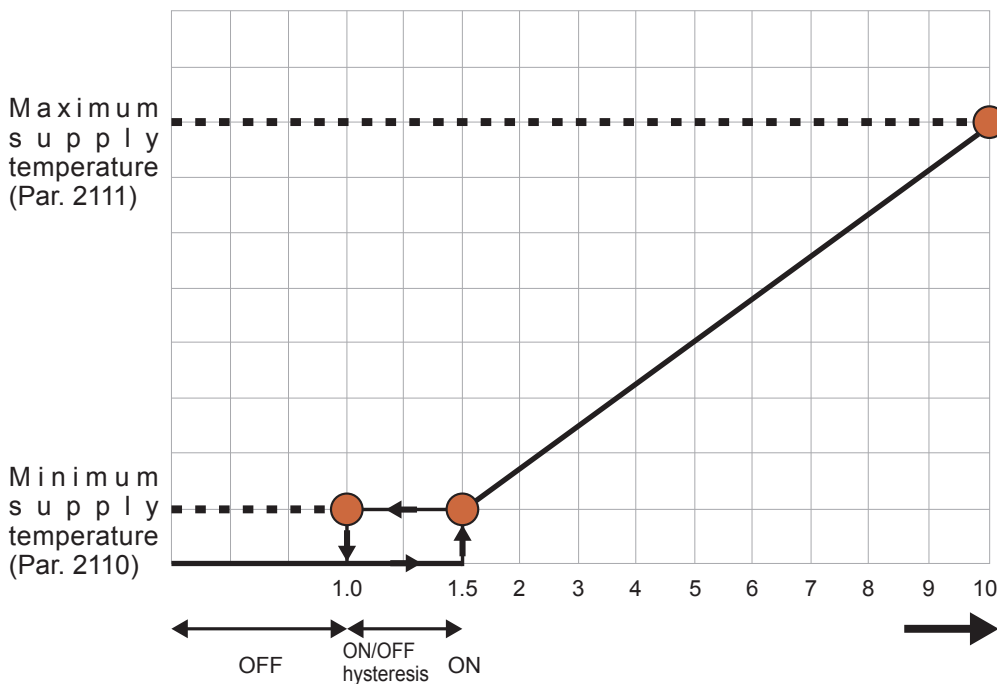

Figure 5-11 – Operating rules for 0-10 VDC analogue input
- 2.- Now the boiler can be controlled via the 0-10 VDC signal according to the rules shown in figure 5-11;